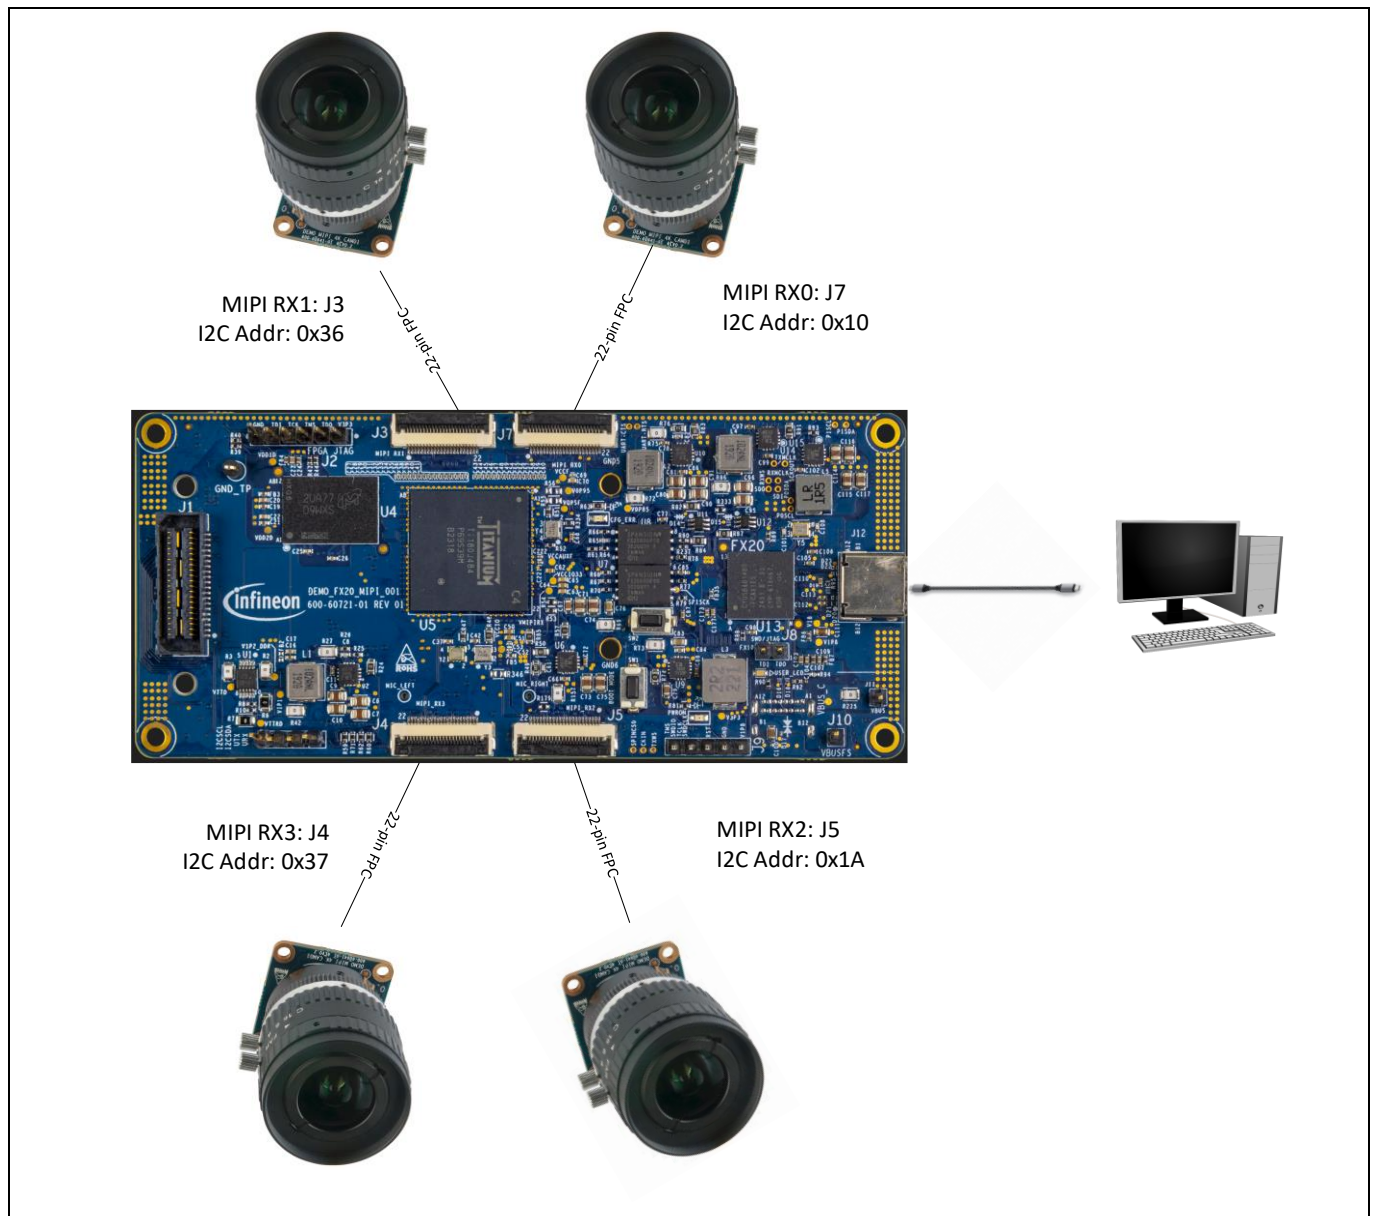

Figure 11 Connecting an external camera module to the kit
3. Ensure that the addresses of Sony IMX715 camera modules are changed per Table 5 and the cameras are connected to their respective ports as shown in Figure 11